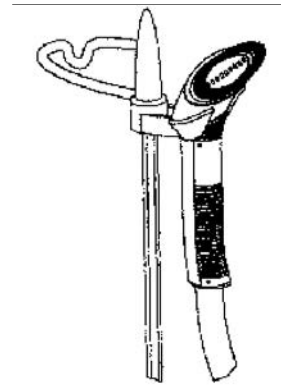

Figure 8
3. Hang the *Steam Nozzle* on the specially designed *Steam Nozzle Holder* as shown in figure 8.